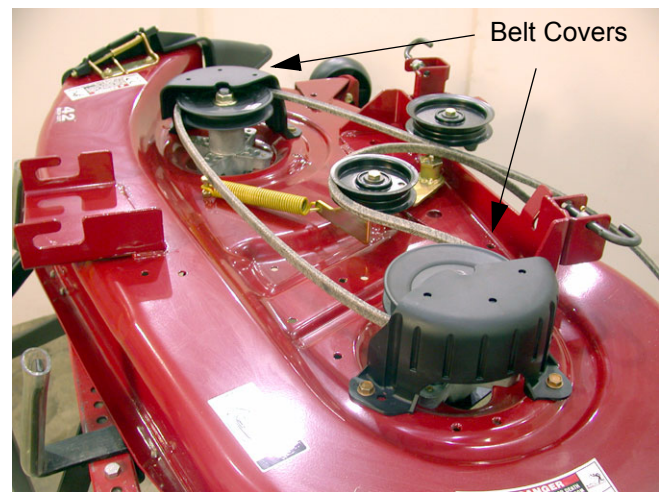

Figure 4.2
- 4.2. Remove both belt covers. These belt covers are identical and interchangeable. See Figure 4.2.